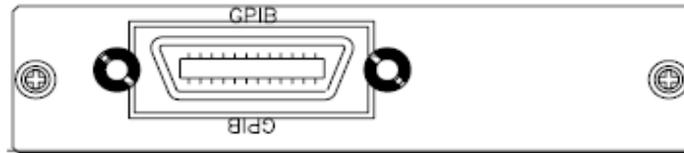

Fig 2-5 1000A REAR PANEL
- Please make sure the lock screws are firmly hand-tightened, use a Screwdriver only for the removal of screws. Fig 2-5 shows the rear Panel of 1000A mainframe, The GPIB address of the 1000A mainframe is set on Front panel.